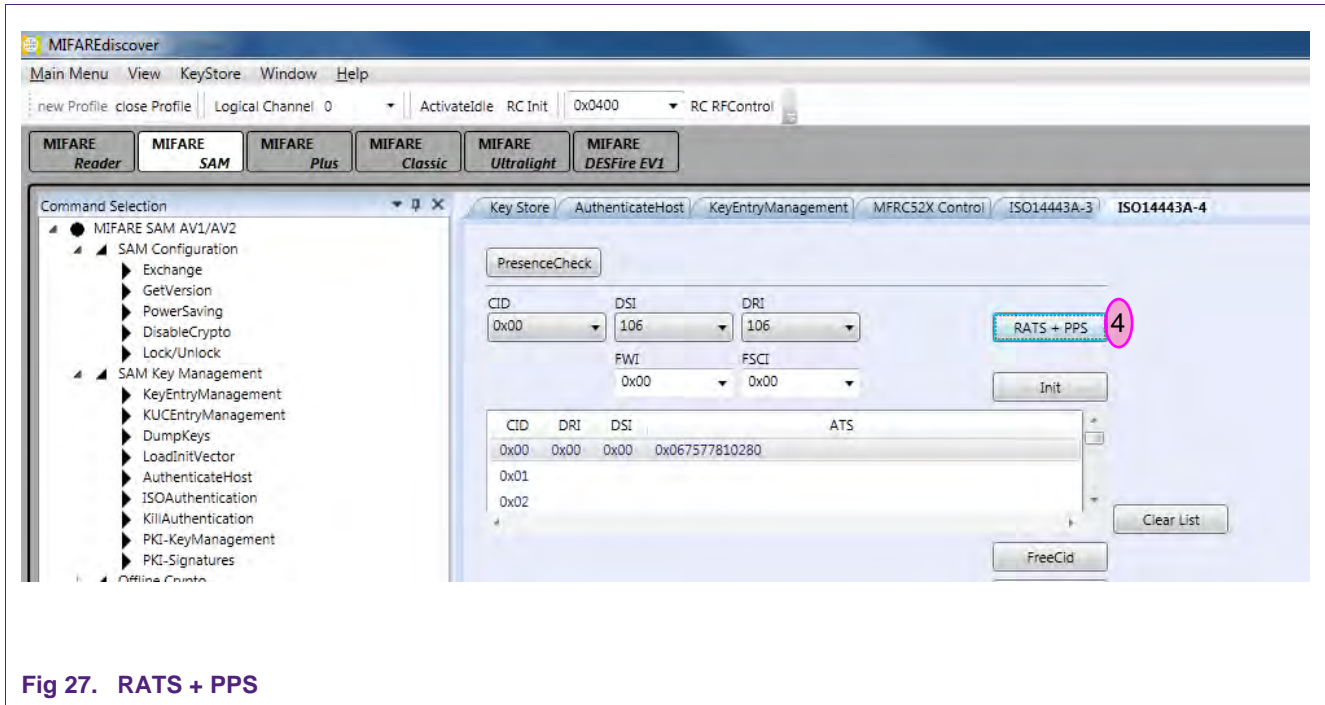

Fig 27. RATS + PPS
4. RATS and PPS command to prepare the MIFARE DESFire EV1 card to ISO/IEC 14443-4 layer (shown in fig. 27).